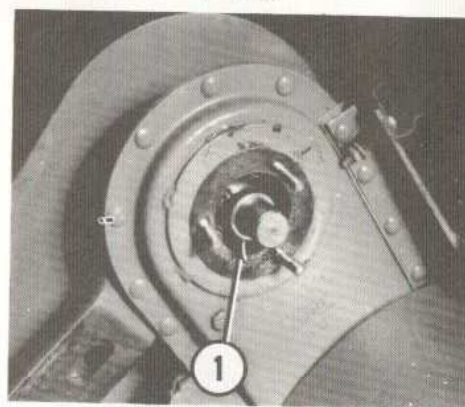

FIG. 52
6. It is not necessary to remove spacer (1) located behind bearing, Fig. 52; although if spacer is removed be sure it is reinstalled with the counterbore side (1) of spacer, Fig. 53, "in" toward the drive chain sprocket.